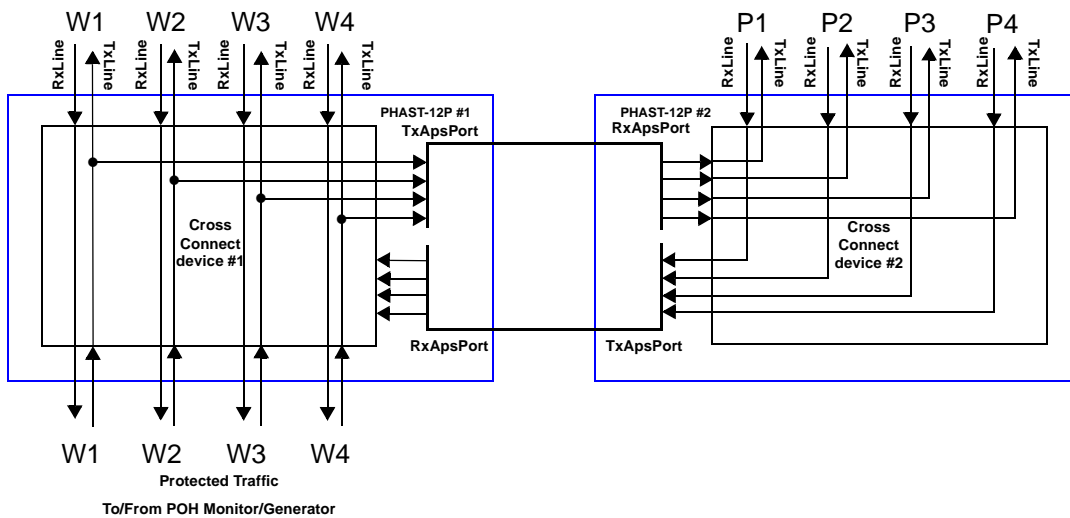

Figure 28. STM-1/OC-3, 1+1 APS Idle State
Figure 28 shows an example of a 1+1 APS protection architecture in STM-1/OC-3 mode using two PHAST-12P devices. One PHAST-12P device handles up to four Worker lines (W) while a second PHAST-12P handles the associated Protection lines (P). Both devices are interconnected through the APS Port interface, using one fourth of the bandwidth per STM-1/OC-3 protection group. The cross connects of both devices setup permanent bridges from the Worker Transmit lines to their Protection Transmit lines over one of the APS Port interfaces. The received protection payload of the four lines is available on the other APS Port interface.